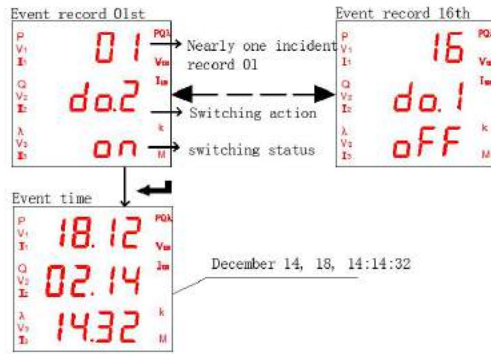

Figure 12
5.2.2 The steps to view the event record of AMC72/96 are shown in Figure 12.